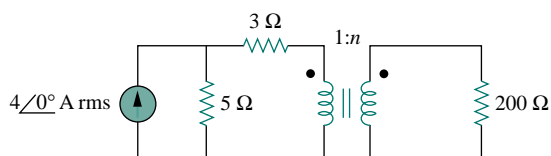

Figure 13.104 For Prob. 13.37.
- 13.37** Refer to the network in Fig. 13.104.